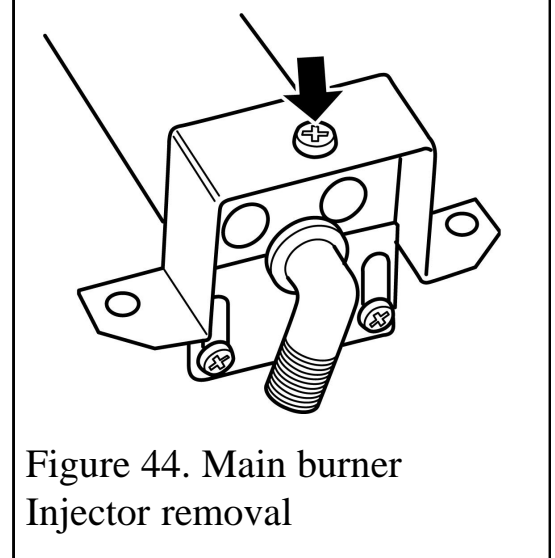

Figure 44. Main burner
(See figure 44).
2. Remove the burner clamping screw (See figure 44)